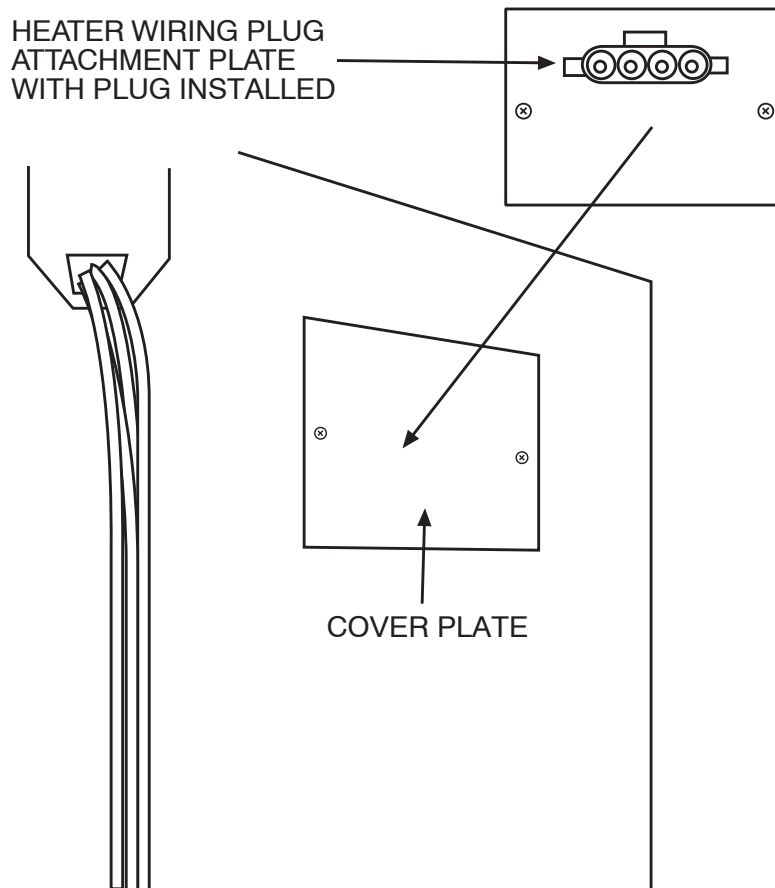

Fig. 4 - Inside Blower Compartment
- Remove heater wiring cover plate from interior partition between blower and control box (See Fig. 4) and install heater wiring plug attachment plate provided with heater.
- Heater control panel will have black and yellow power wires ending in panel mounted plugs; reach through large rectangular opening in control panel and snap these plugs into mating openings in heater wiring plug attachment plate installed in step 9 above (See Fig. 4).